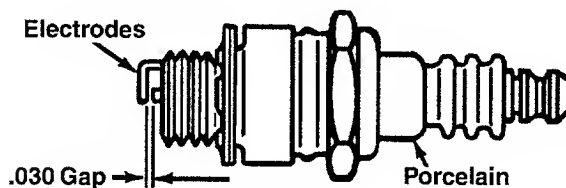

FIGURE 20
- Clean the spark plug and reset the gap .030" at least once a season or every 50 hours of operation. Spark plug replacement is recommended at the start of each season. Refer to engine parts list for correct spark plug type. See figure 20.